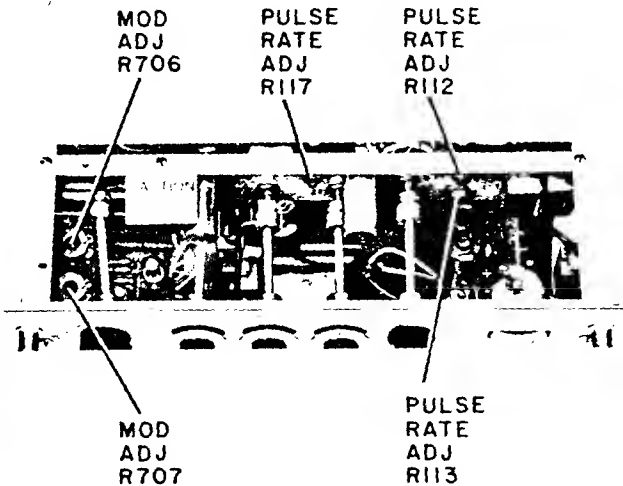

Figure 5-8. Location of Klystron and Modulator Adjustments (618C)
- c. With the MOD. SELECTOR set to CW, adjust R707 (Figure 5-8) for a klystron cathode current of 25 mA maximum (approximately 15 mA).
c. Adjust potentiometer R112 (Figure 5-8) so that the counter indicates 4800 Hz.
e. Adjust potentiometer R113 (Figure 5-8) so that counter indicates 480 Hz.
g. Adjust potentiometer R117 (Figure 5-8) so that counter indicates 30 Hz.